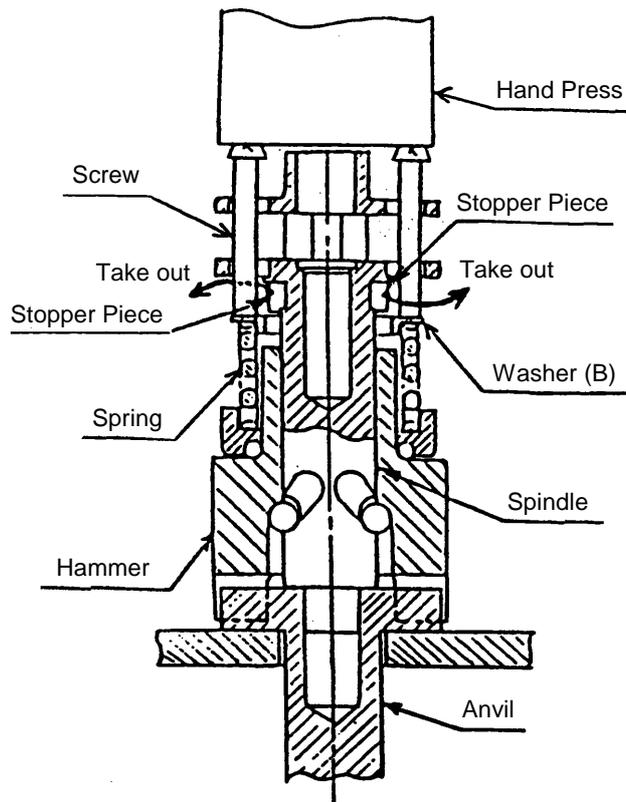
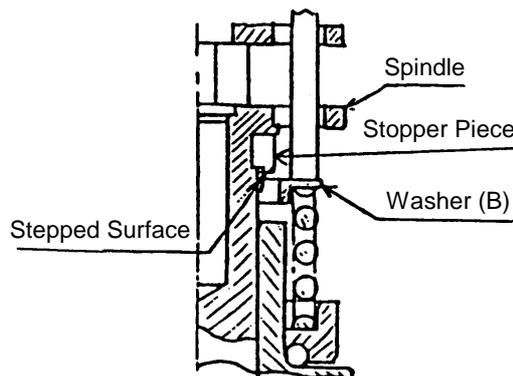

Fig. 10
Fig. 14
- Take the impact section out of the Inner Cover ⑳ ⑳. Remove the Ball Bearing ⑲ ⑳, Washer ⑱ ㉓, two Needle Rollers ⑰ ㉒, and two Idle Gears ⑯ ㉑ from the Spindle ⑮ ㉐. Next, set the Anvil ④ ⑨ onto the support base of a hand press, as shown in Fig. 10, and align the impact section with the Anvil ④ ⑨. Then, insert two M4 (5/32") or M5 (3/16") screws (30mm[1-3/16"] in length) into the needle roller holes of the Spindle ⑮ ㉐, and push down on the heads of the screws with the hand press to compress the Spring ⑩ ㉕. Holding the Spring compressed, use a small minus-head screwdriver to remove the two halved stopper Pieces ⑭ ㉑ from the gap between the Spindle ⑮ ㉐ and Washer (B) ⑪ ㉖. Then release the hand press slowly, and extract the two screws.
As shown in Fig. 10, fit the impact section onto the Anvil (4) (9), and push down the screws with a hand press to compress and support the Spring (10) (15). Then, as illustrated in Fig. 14, install the Stopper Pieces (14) (19) in the gap between the Spindle (15) (20) and Washer (B) (11) (16) so that the stepped surfaces of the Stopper Pieces are directed toward Washer (B), and gently release the hand press.